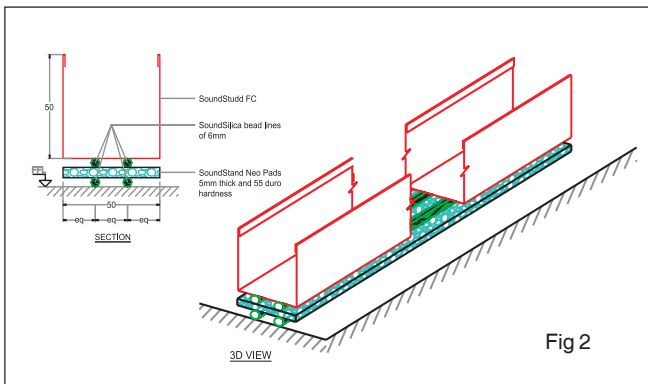

Fig 2
Optional - Where base floor is highly uneven or structural vibration, that is induced by low frequency (LF) soundwaves or mechanical equipment, is envisaged, SoundStand™ Neo pads (an ideal blend of neoprene and rubber with vibro-acoustic control characteristics) of specified thickness and hardness, usually 5 mm thick and 55 duro hardness, are installed on the floor with SoundFire™ bead lines and again SoundFire™ bead lines applied on the pad to received the SoundStudd™ framework. (See Fig 2)